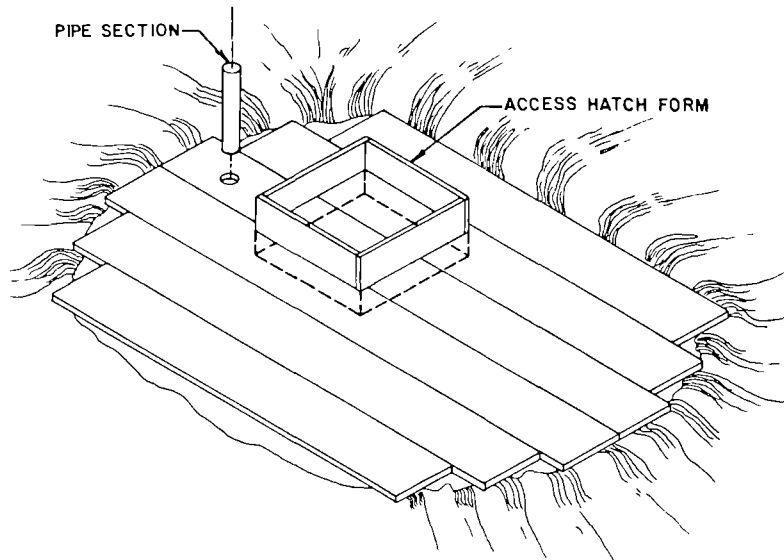

Figure 5. Locating Pipe Section and Access Hatch
Construct the hatch opening form as described in Handout 5-8, p. 12-15. Place the opening form and the 90 mm pipe section in their respective locations on the wooden platform as shown in Figure 5. There should at least be twenty-five (25) cm between the pipe section and the opening form so that the hatch cover will later fit properly.